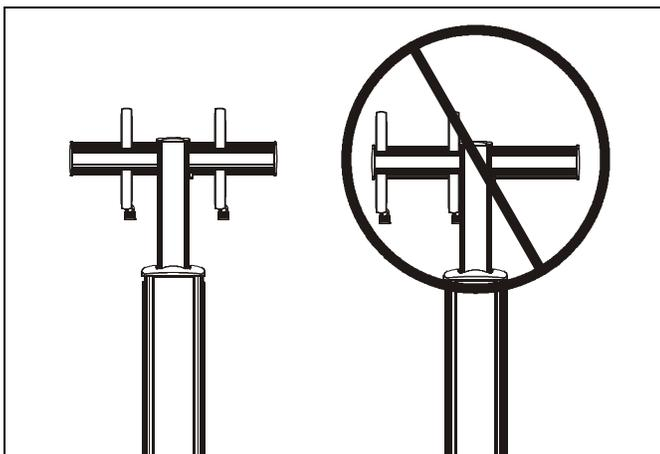

Figure 8
**IMPORTANT ! :** In order to ensure an even mount, install uprights to be centered over column assembly. Do NOT install both uprights to the same side of column assembly! (See Figure 8)